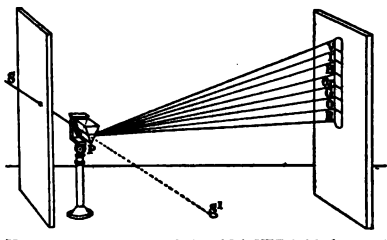

FIG. 443. — Light decomposed by prism.
**464. Analysis of light by prism.** If we let a beam of sunlight pass through a narrow slit into a dark room, and put a glass prism in its path (Fig. 443), the beam of light is refracted. If we put a white screen in the path of the refracted light, a band of colors is formed. In this band are red, yellow, green, blue, and violet, though there are no sharp lines of division between them.